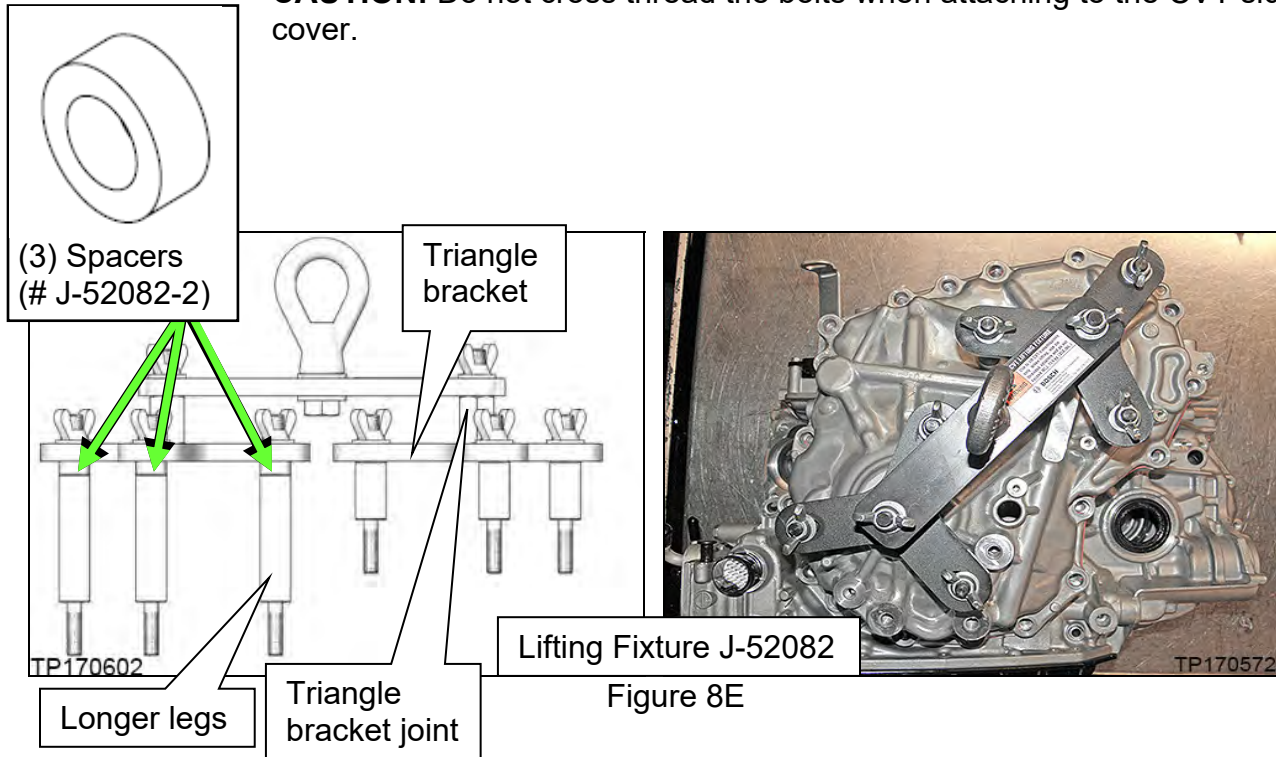

Figure 8E
7. Attach universal Lifting Fixture J-52082 with spacers J-52082-2 to the side cover as shown in Figure 8E.
- b. Confirm that three (3) spacers (# J-52082-2) are present between the longer legs and triangle bracket as shown in Figure 8E.